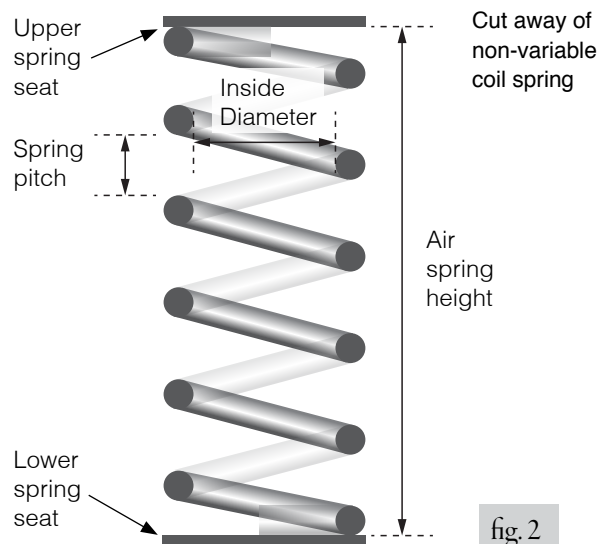

fig. 2
10. Air pressure in the system will depend on the pitch of the stock coil spring (Fig. 2). Pitch is the gap or distance between the coils. Some springs have a "variable" rate in which the gap or distance between the coil springs will vary. For these springs, it is recommended to measure the largest opening and use this as the guide to choose what pressure to use.